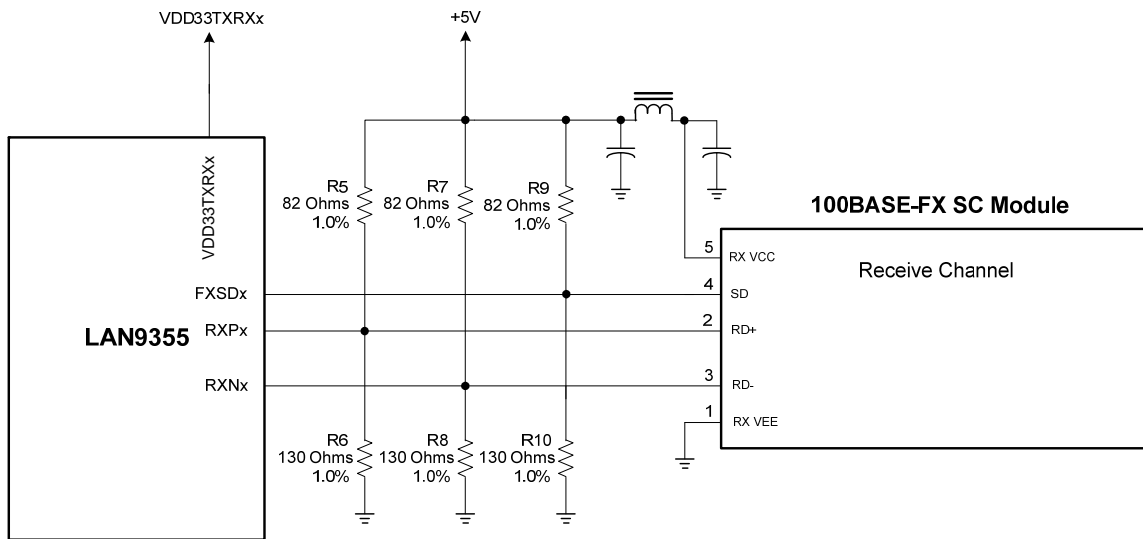

Figure 14 – Fiber Receive Channel Connections
6. For Port A, Fiber Receive Channel connection details, refer to Figure 14.
9. **Architecture Note:** 100BASE-FX is a version of Fast Ethernet over optical fiber. It uses a 1300 nm near-infrared (NIR) light wavelength transmitted via two strands of optical fiber, one for receive(RX) and the other for transmit(TX). Maximum length is 412 metres (1,350 ft) for half-duplex connections (to ensure collisions are detected), and 2 kilometres (6,600 ft) for full-duplex over multi-mode optical fiber. 100BASE-FX uses the same 4B5B encoding and NRZI line code that 100BASE-TX does. 100BASE-FX should use SC, ST, LC, MTRJ or MIC connectors with SC being the preferred option.
6. For Port B, Fiber Receive Channel connection details, refer to Figure 14.